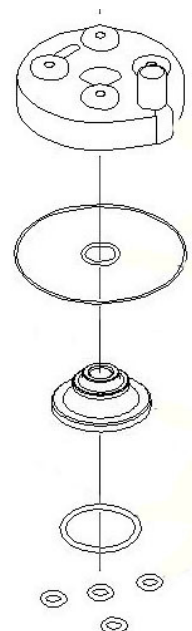

Figure 29
15. Install O-RINGS as shown in figure 29.